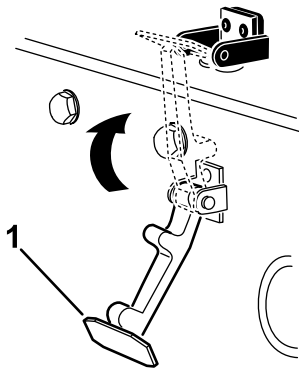

Figure 32
6. Hook the latch onto the hood-latch bracket (Figure 32).